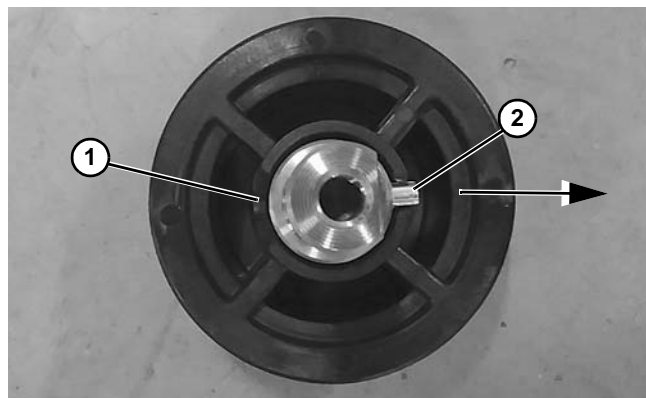

Figure 44
*Be certain to drive pin out through slotted hole (**Figure 44, item 1**). DO NOT drive pin out on side of roller where pin (**Figure 44, item 2**) is sticking out.*